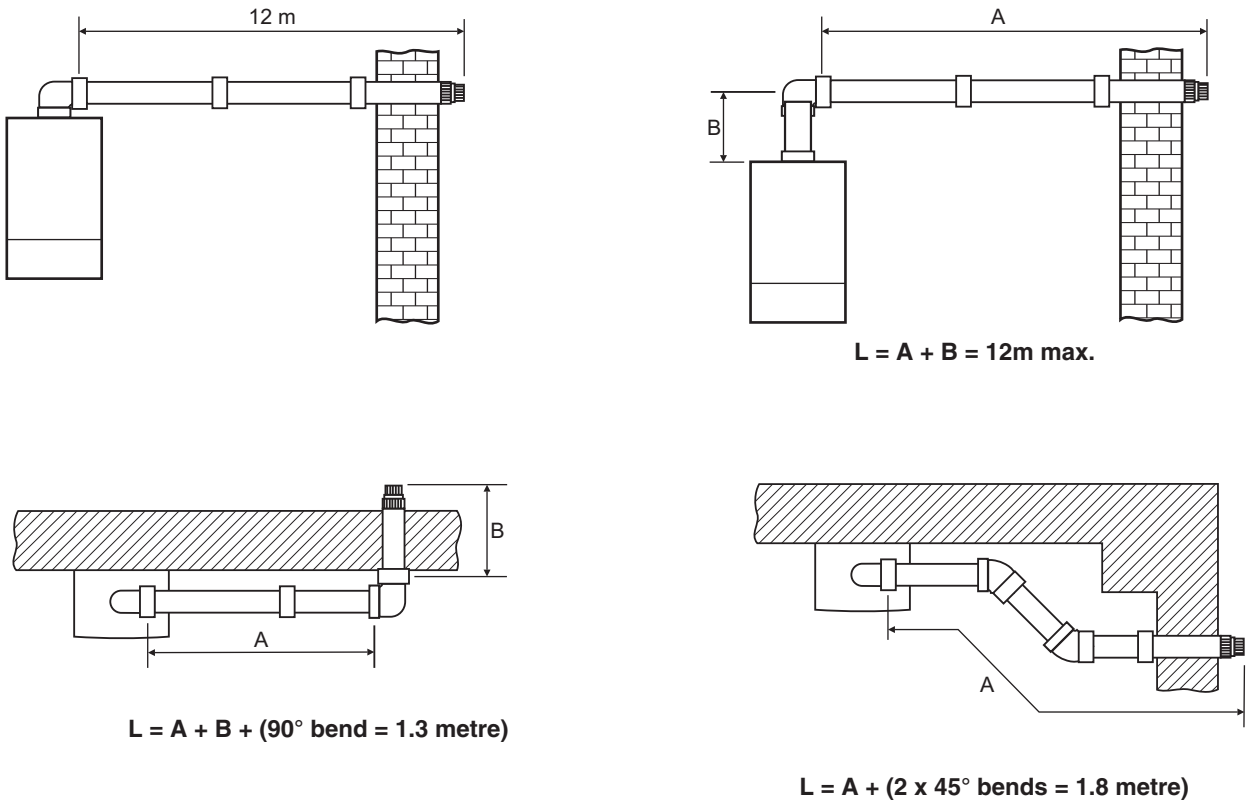

Fig. 4.1
4.4 FLUE SYSTEM - Figs. 4.1, 4.2